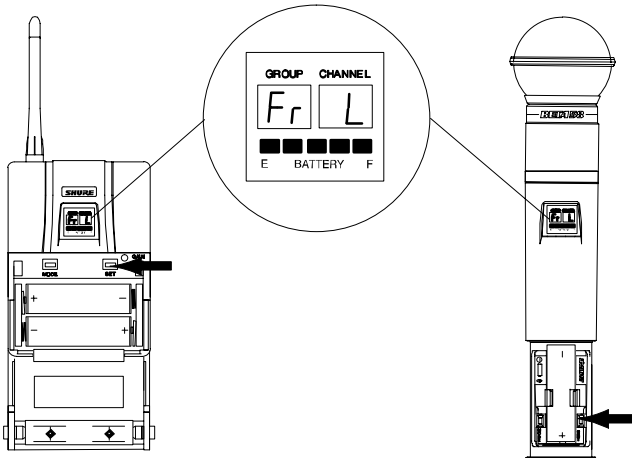

FIGURE 44
2. Turn the power back on while holding down the SET button until the fuel gauge on the transmitter is active. "Fr L" appears momentarily, as shown in Figure 44, until you release the SET button.